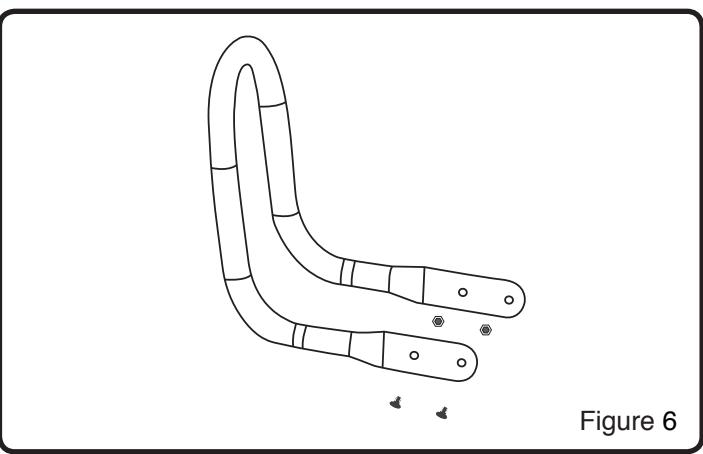

Figure 6
## Install Front Guard (See Figure 6)
1. Place the tiller on a level surface and make sure the depth regulator lever is set so the main frame of the tiller is level. (See Figure 6)
2. Remove the oil fill cap/dipstick and wipe clean with cloth. (See Figure 6)